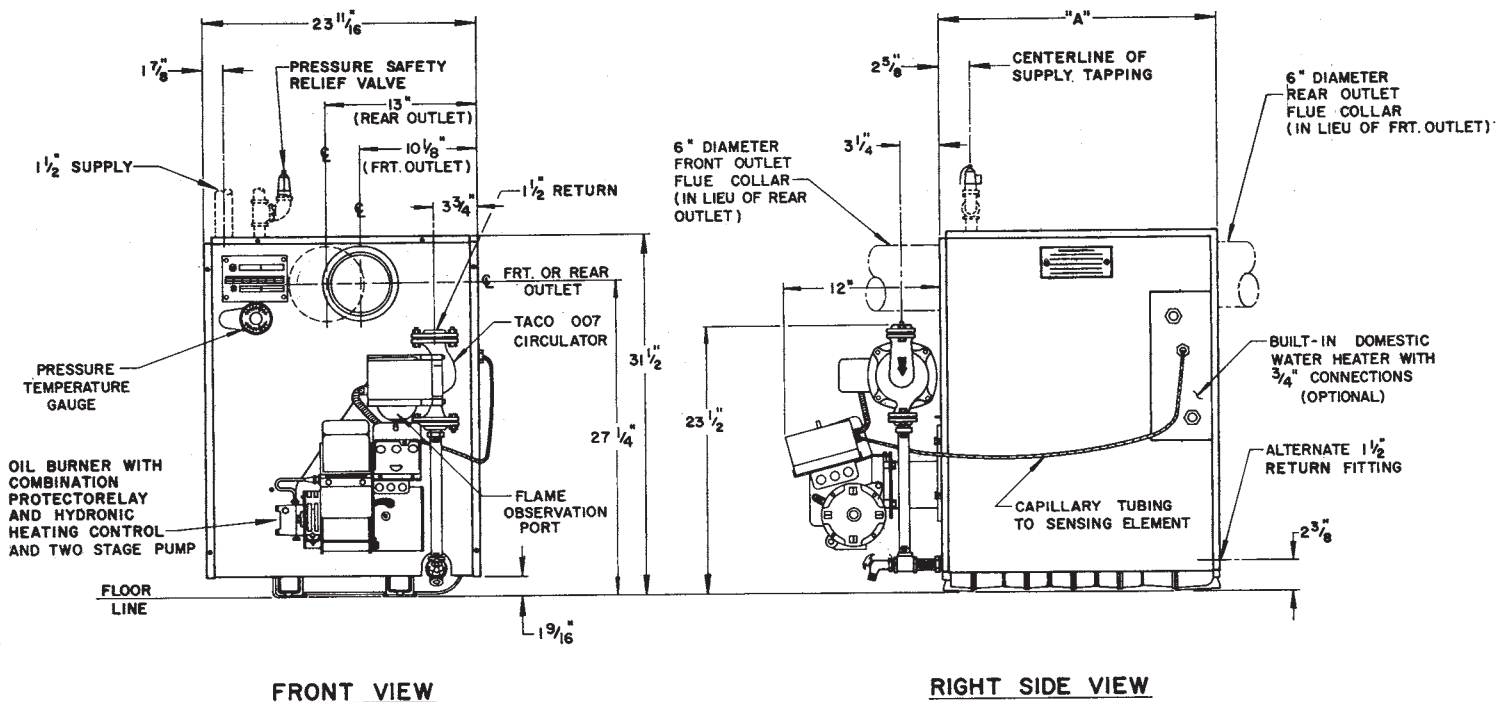

Figure: 1
2. ANY CLAIMS for damage or shortage in shipment must be filed immediately against the carrier by the consignee. No claims for variances from, or shortage in orders, will be allowed by the manufacturer unless presented within sixty (60) days after receipt of goods.
- B. LOCATE BOILER** in front of final position before removing crate. See Figure 1.
3. Install relief valve and fittings in top of front section, see Figure 1.